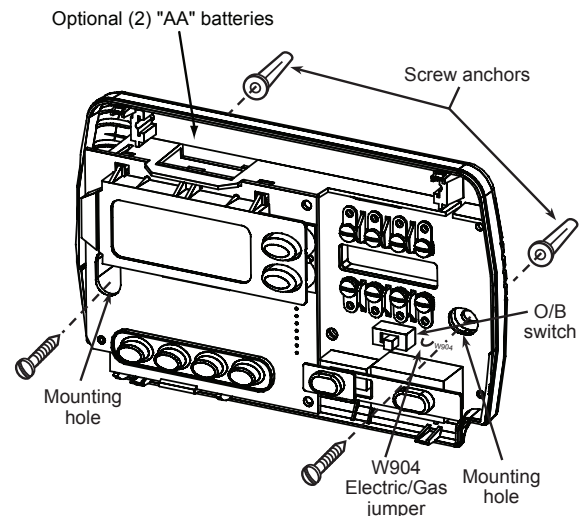

Figure 1. Thermostat Base
5. Fasten base loosely to wall, as shown in fig. 1, using two mounting screws. Place a level against bottom of base, adjust until level, and then tighten screws. (Leveling is for appearance only and will not affect thermostat operation.) If you are using existing mounting holes, or if holes drilled are too large and do not allow you to tighten base snugly, use plastic screw anchors to secure subbase.
If your emergency or auxiliary system will energize the blower, then jumper, W904, on the thermostat base must be cut (see fig 1).